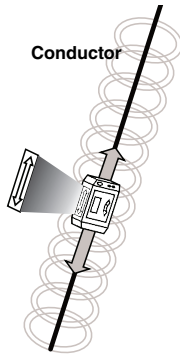

Figure 15 – Orientation to the Line – Inductive Mode
1. Properly place the transmitter relative to the target conductor (*see Figure 15*). On the top of the transmitter is an arrow. Set